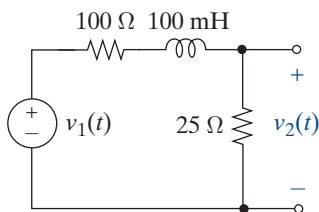

FIGURE P11-18
- 11-18 Find $v_2(t)$ in Figure P11-18 when $v_1(t) = \delta(t)$. Repeat for $v_1(t) = u(t)$.